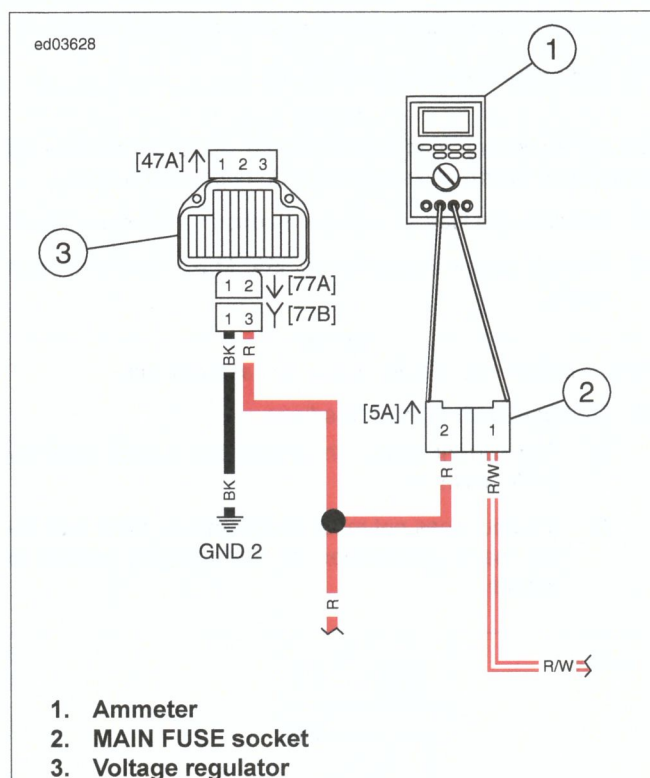

Figure 2-9. Milliampere Draw Test (Ignition Turned to OFF)
2. See Figure 2-9. Using HARNESS CONNECTOR TEST KIT (Part No. HD-41404), connect ammeter to main fuse socket terminals. With this arrangement, you will pick up any drain.